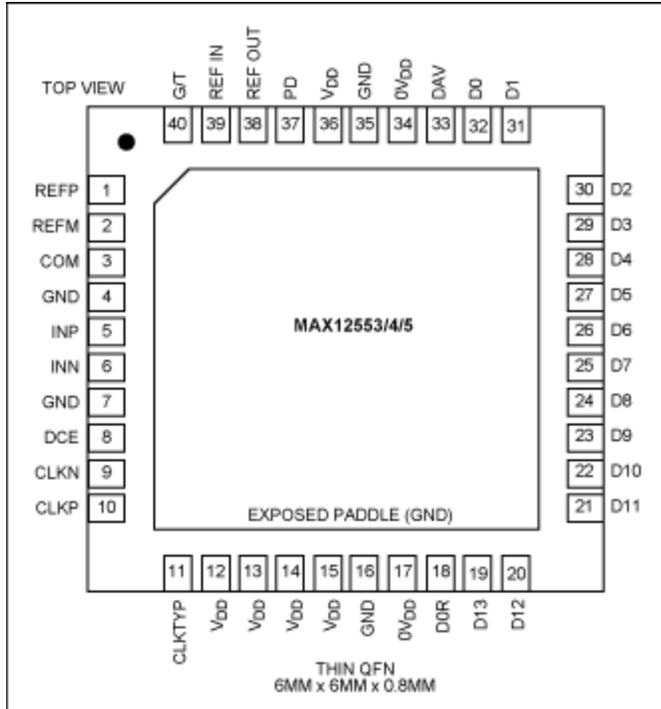

Figure 1. MAX12553, MAX12554, and MAX12555 pinout.
**Figure 1** for an illustration of the pinout and **Table 1** for the pin description for this family of ADCs. The evaluation (EV) kit includes multiple options that allow for single-ended or differential clock, single-ended or differential clock analog input, internal/external reference, etc. Therefore, the EV kit schematics (**Figure 2** and **Figure 3**) accommodate many more external components and configurations than would be used in a normal application. **Figure 4** and **Figure 5**, finally, provide the silkscreen and component placement for the top and the bottom layer of the EV kit.